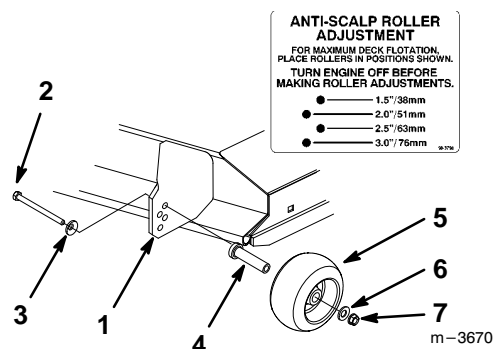

Figure 12
Note: There are two different ways that the rollers are fastened. Check which type you have. You tell by identifying the fastener (Fig. 12 and 13).
2. After adjusting height-of-cut remove roller from deck mount (Fig. 12).
3. Select hole so gage wheel is positioned to the nearest corresponding height-of-cut desired (Fig. 12).
4. Reinstall the bolt, roller, nut and washers (Fig. 12). Be sure bolt is tightened securely or loss of anti-scalp roller may result.